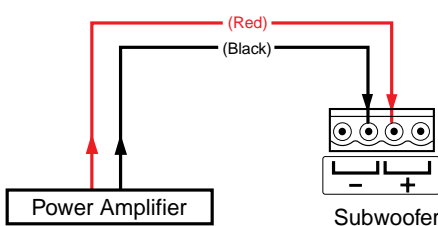

Figure 11. Subwoofer Wiring Methods
- Consider the distance between the subwoofer and the amplifier and whether doubling up the speaker cable (see figure 11 on page 17) is necessary to reduce the power losses through the wires.
4. Connect four or two speaker wires to the captive screw connector, as shown by the following two methods (see figure 11).